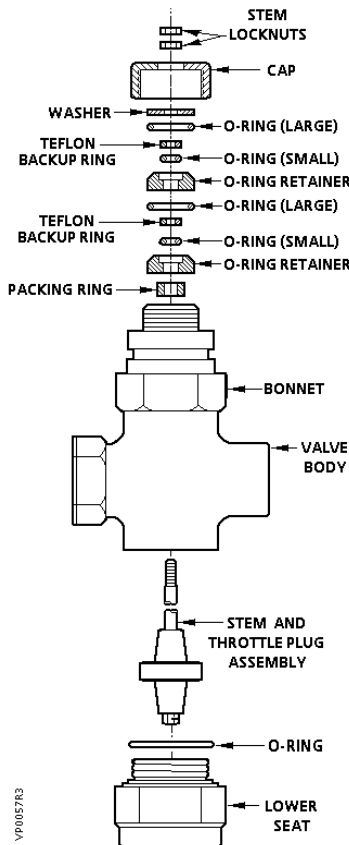

Figure 2. Valve Body Construction.
5. Remove and discard the lower seat from the bottom of the valve body. See *Figure 2*.
1. Slide the new stem and throttle plug assembly into bonnet through the opening in the bottom of the valve body as shown in *Figure 2*.